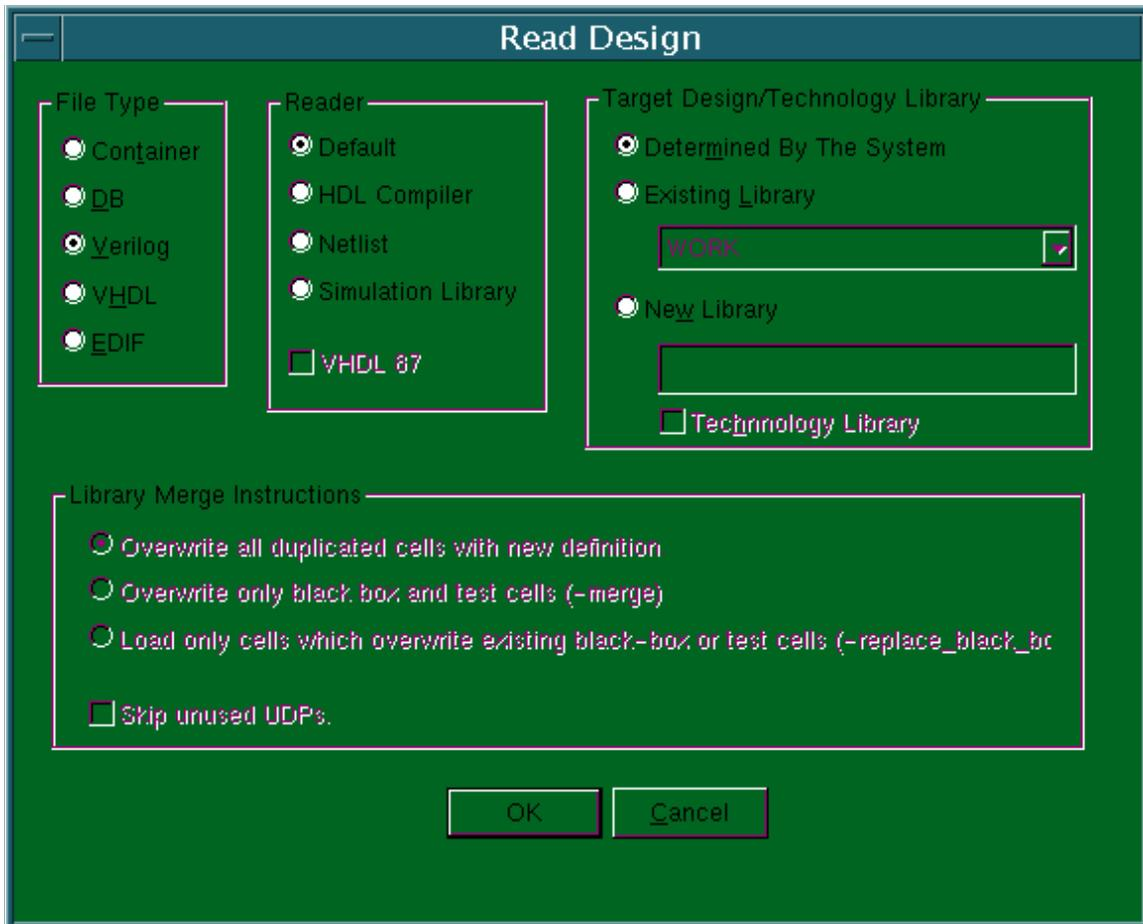

Figure 4: Read Design Options GUI
9. Select Open on the "Read Design" browser window (see Figure 4) .